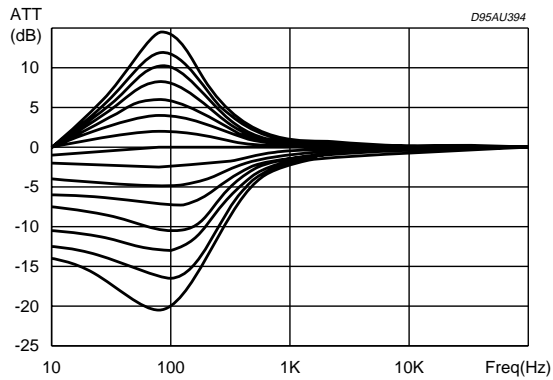

Figure 16. Loudness
- 1) Simple Capacitor The loudness effect is only a boost of low frequencies. (see Fig. 16)